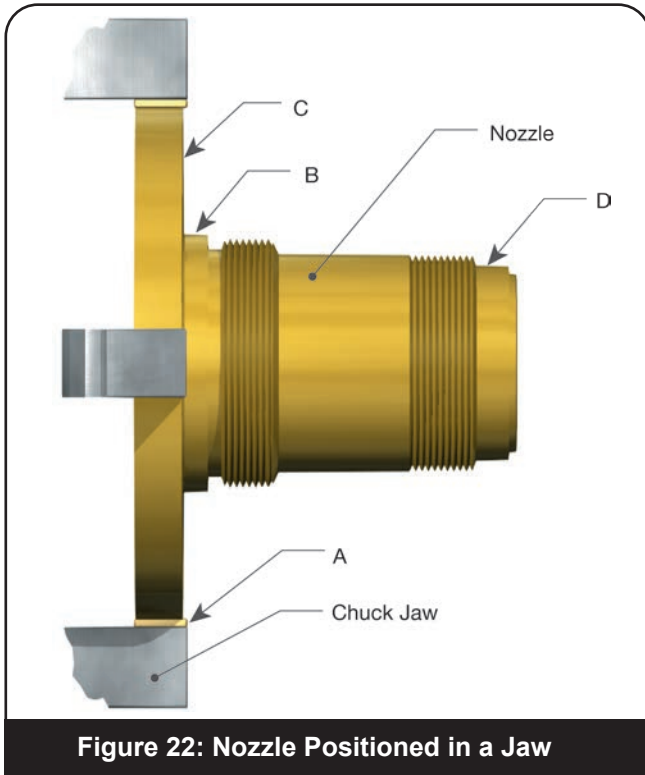

Figure 22: Nozzle Positioned in a Jaw
- a. Grip the nozzle in a four-jaw independent chuck (or collet, if appropriate), using a piece of soft material such as copper or fiber between the jaws and the nozzle as shown at A (Figure 22).
- b. True up the nozzle so that the surfaces marked B and C run true within .001" (0.03 mm) on indicator (Figure 22).